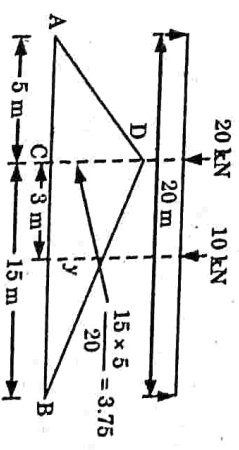

Fig. 4.12.3.
3. **Maximum Bending Moment:** ILD for bending moment is shown in Fig. 4.12.3.